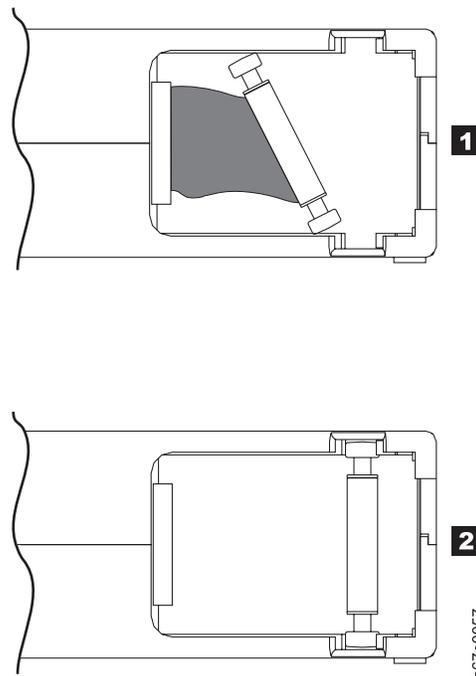

Figure 8. Leader pin in the incorrect and correct positions. The cartridge door is open and the leader pin is visible inside the cartridge.
- Do not drop the cartridge. If the cartridge drops, slide the cartridge door back and ensure that the leader pin is properly seated in the pin-retaining spring clips (see **2** in Figure 8 on page 20). If the leader pin has become dislodged, go to “Repositioning or reattaching a leader pin” on page 20.
A leader pin that is improperly seated inside a cartridge can interfere with the operation of the drive. Figure 8 shows a leader pin in the incorrect **1** and correct **2** positions.